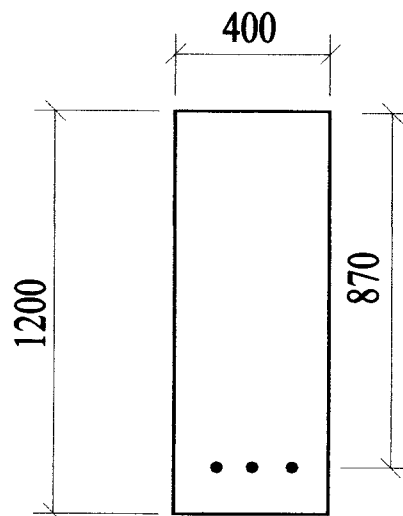

FIGURE Q3
- Q3** (a) A bonded prestressed concrete beam is of rectangular section 400 mm by 1200 mm, as shown in Figure Q3. The tendon consists of 3300 mm² of standard strands with the characteristic strength of 1700 N/mm² and Young's modulus equal to 200 kN/mm² was stressed to an effective prestress of 910 N/mm². The strands are located 870 mm from the top face of the beam. The concrete characteristic strength is 60 N/mm² and its modulus of elasticity is 36 kN/mm².